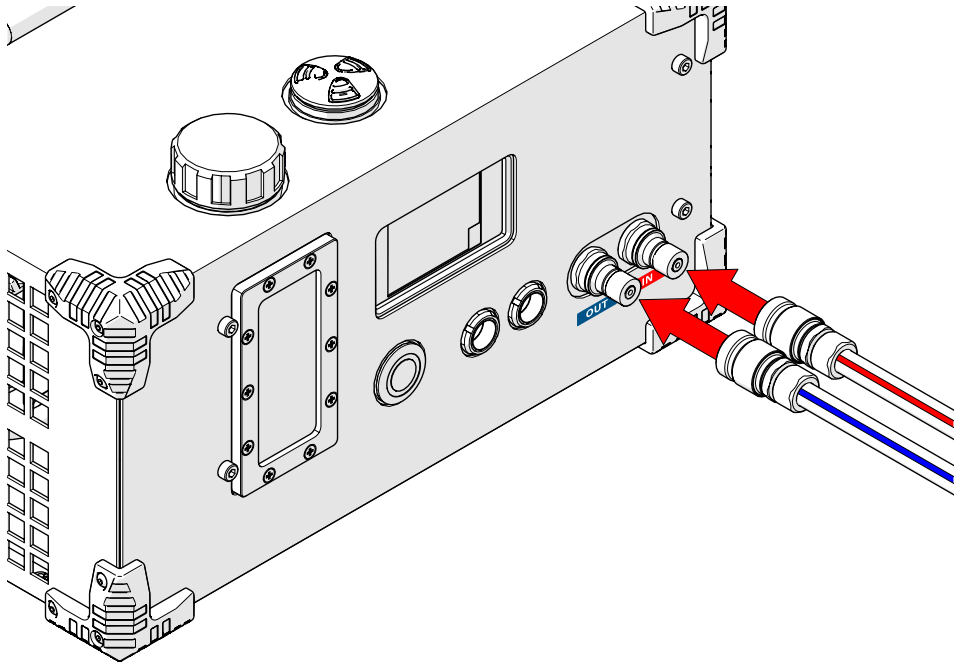

Fig. 13 - Connect red hose to IN port, connect blue hose to OUT port
- ▶ The **RED HOSE** connects to the **IN PORT** (Fig. 13).
- ▶ The **BLUE HOSE** connects to the **OUT PORT** (Fig. 13).